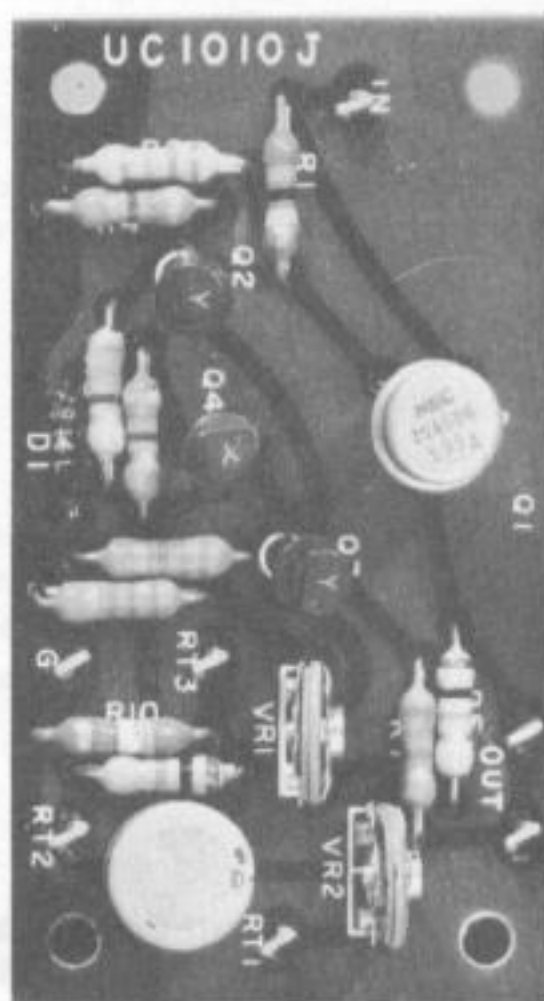

Fig. 11 X43-0010-00
2. AVR UNIT (X43-0010-00) (See Fig. 11.)